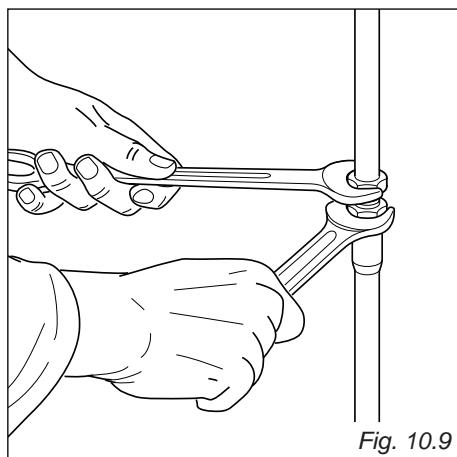

Fig. 10.9
- To fix the parts it is necessary to operate with 2 spanners (fig. 10.9).